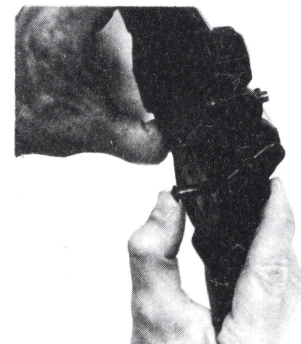

Figure 19B
6. Replace the receiver back cap onto the rear of the receiver. Replace the two retaining pins. (Figure 19B). Replace the fore piece on the barrel. Push in the fore piece retaining pin. The SP89 is now reassembled.